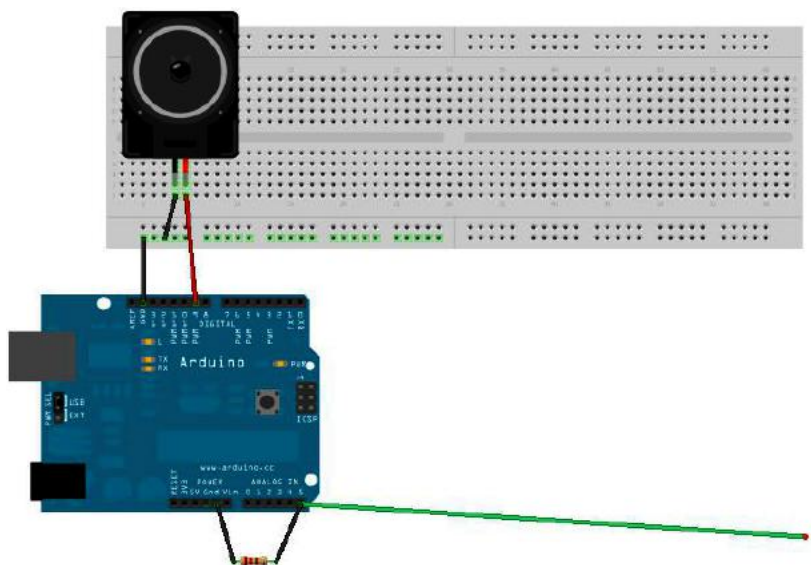

Figure 4-3. EMI detector: one lead of 8-ohm speaker connected to GND pin on Arduino, the other to digital port 8.
Step 5 Connect one lead of the 8-ohm speaker to digital port 9 on Arduino, and the other lead into GND, as shown in the breadboard view (Figure 4-3).